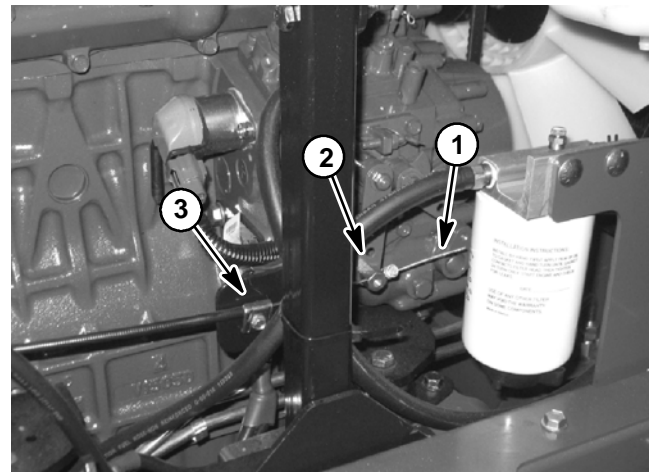

Figure 10
7. Remove throttle cable from injector pump (Fig. 10):
8. Connect throttle cable to injector pump (Fig. 10):